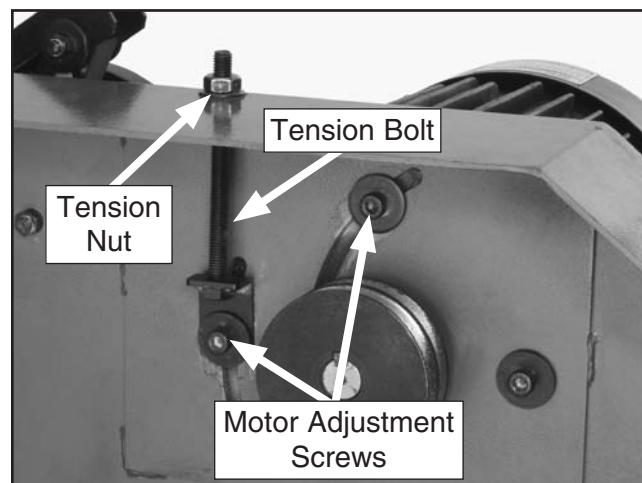

Figure 72. Motor mount bolts and tension bolt (lower wheel removed for clarity).
3. Loosen the motor adjustment screws shown in **Figure 72**.
3. Loosen the motor adjustment screws shown in **Figure 72** on **Page 53**, then turn the tension nut counterclockwise.